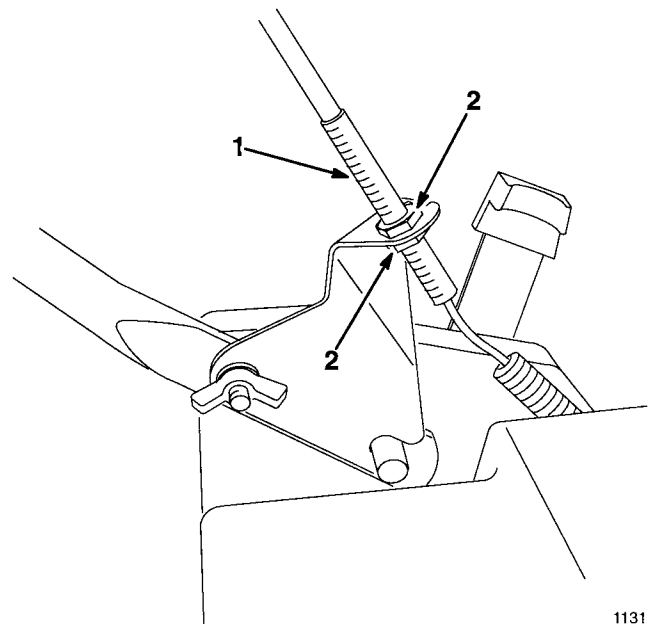

Figure 30
1. Hold self-propelled bail 1 to 1½ in. (25 to 38 mm) from handle (Fig. 30).